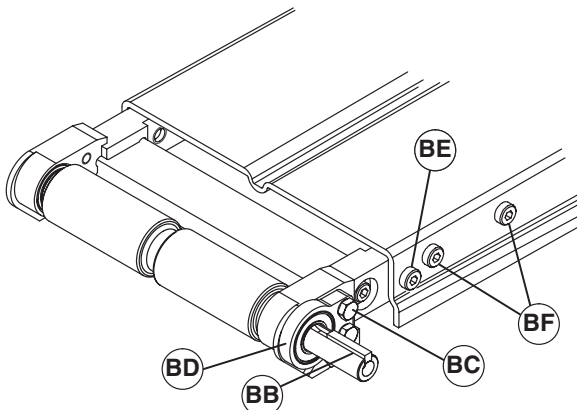

Figure 30
2. For 10" (254 mm), 12" (305 mm) or 18" (457 mm) wide conveyors, remove key (Figure 30, item BB) and two M5 low head screws (BC) to remove outboard bearing (BD).
Two screws (Figure 30, item BF) were removed in step 1.